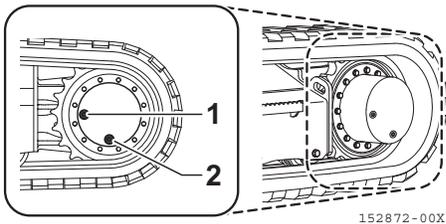

Fig. 8-49
1. Set the position of the drain port (Fig. 8-49, 2) to the lower side.
2. Place a container receiving waste oil under the level port (Fig. 8-49, 1).
4. When the oil quantity is insufficient, ViO80-7: remove the plug of the oil supply port (Fig. 8-49, 3) and replenish gear oil through the oil supply port until gear oil overflows from the level port (Fig. 8-49, 1). SV100-7: replenish gear oil through the level port (Fig. 8-49, 1) until gear oil overflows from the level port (Fig. 8-49, 1). Refer to Section "4. Fueling, Oiling and